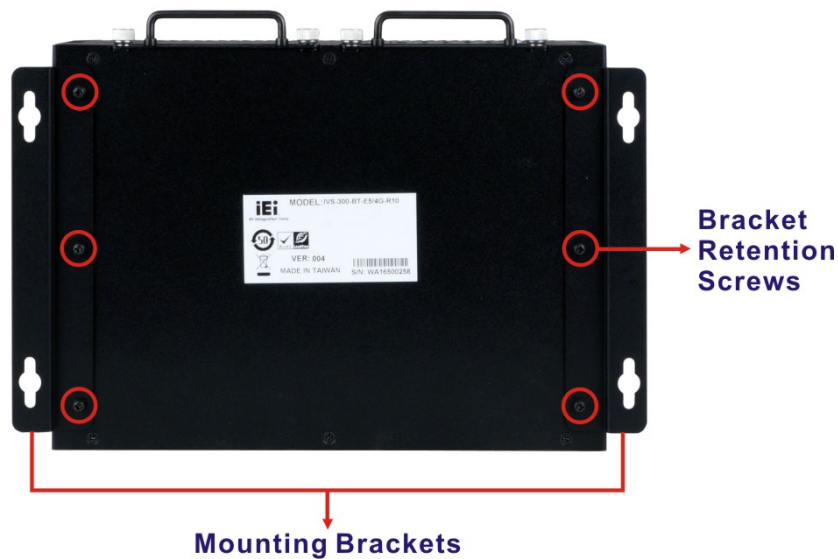

Figure 3-19: Mounting Bracket Retention Screws
- Step 3:** Secure the brackets to the system by inserting three retention screws (M3*8) into each bracket (**Figure 3-19**).